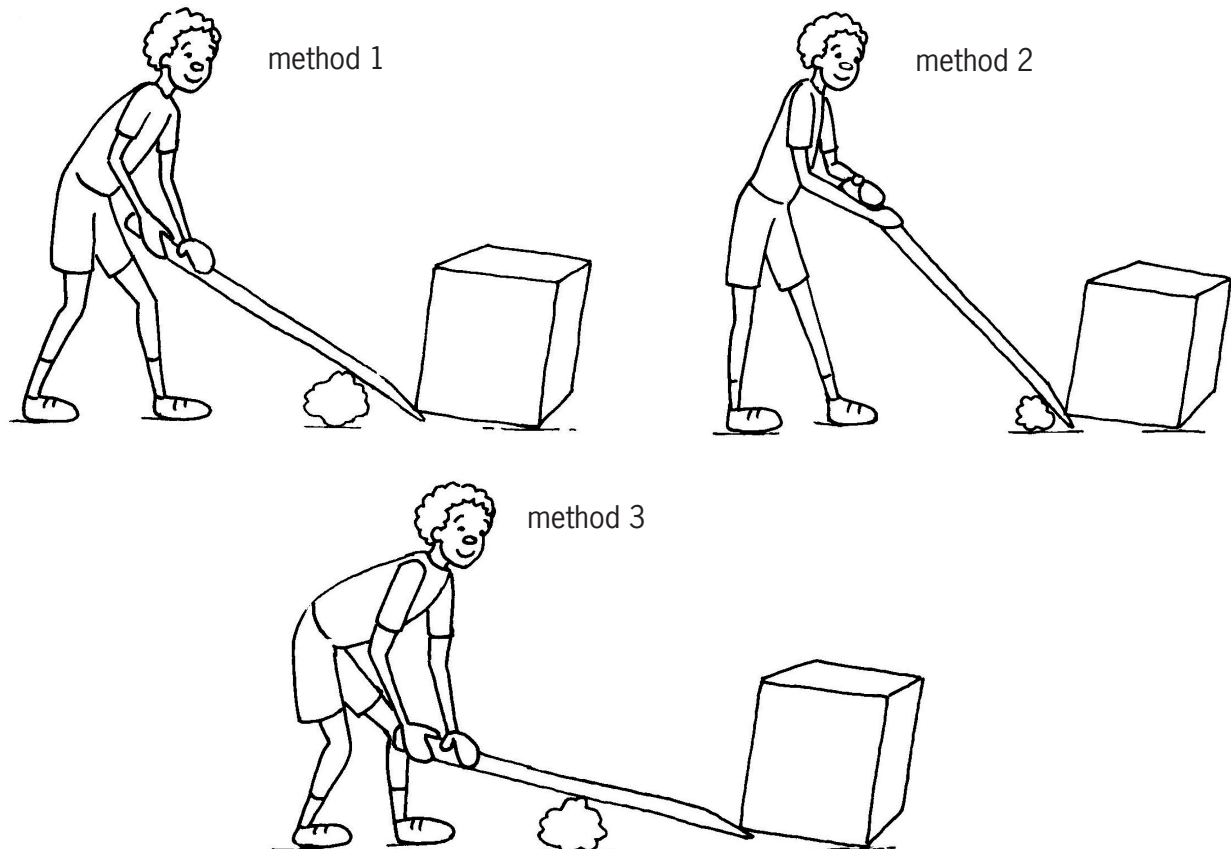

Figure 4
- Have another look at Figure 4 of this chapter. Which method gives Tom the biggest mechanical advantage when he uses the lever?